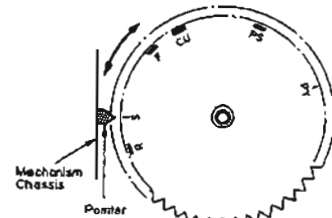

Fig. 2.3
(1) Offset Adjustment of Control Motor Driver
- (a) Refer to Fig. 2.3.